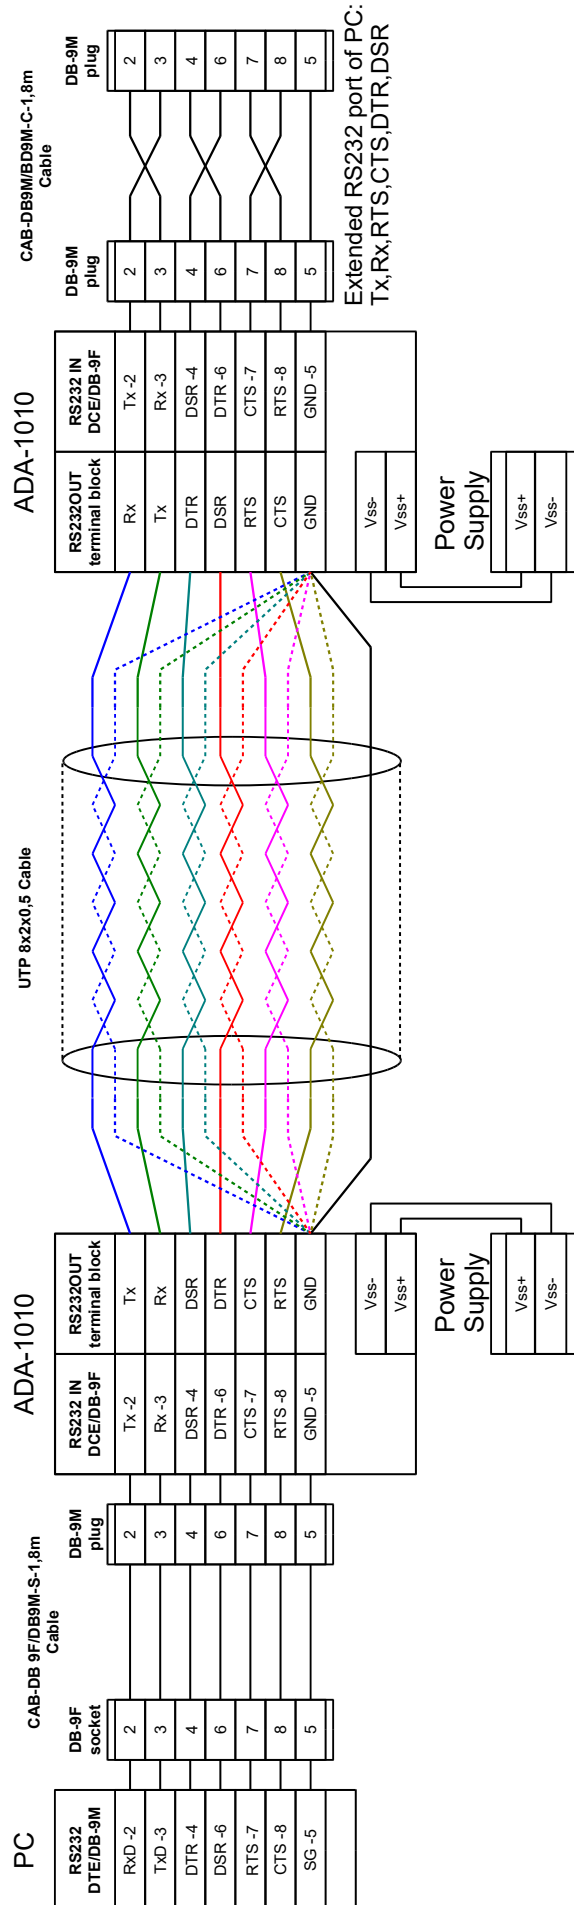

Fig 7. Connection for operation as extender RS232 PC port up to 300m.
- Extender RS232 port using six pairs twisted cable and two ADA-1010 separators You can connect two devices with RS232 interface together which are distance up to 300m (3 x 15m) Fig.7.
It is possible to extend RS232 port (eg. Computer) for 300m using ADA-1010 and multicore twisted cable. This connection is shown on Fig 7.